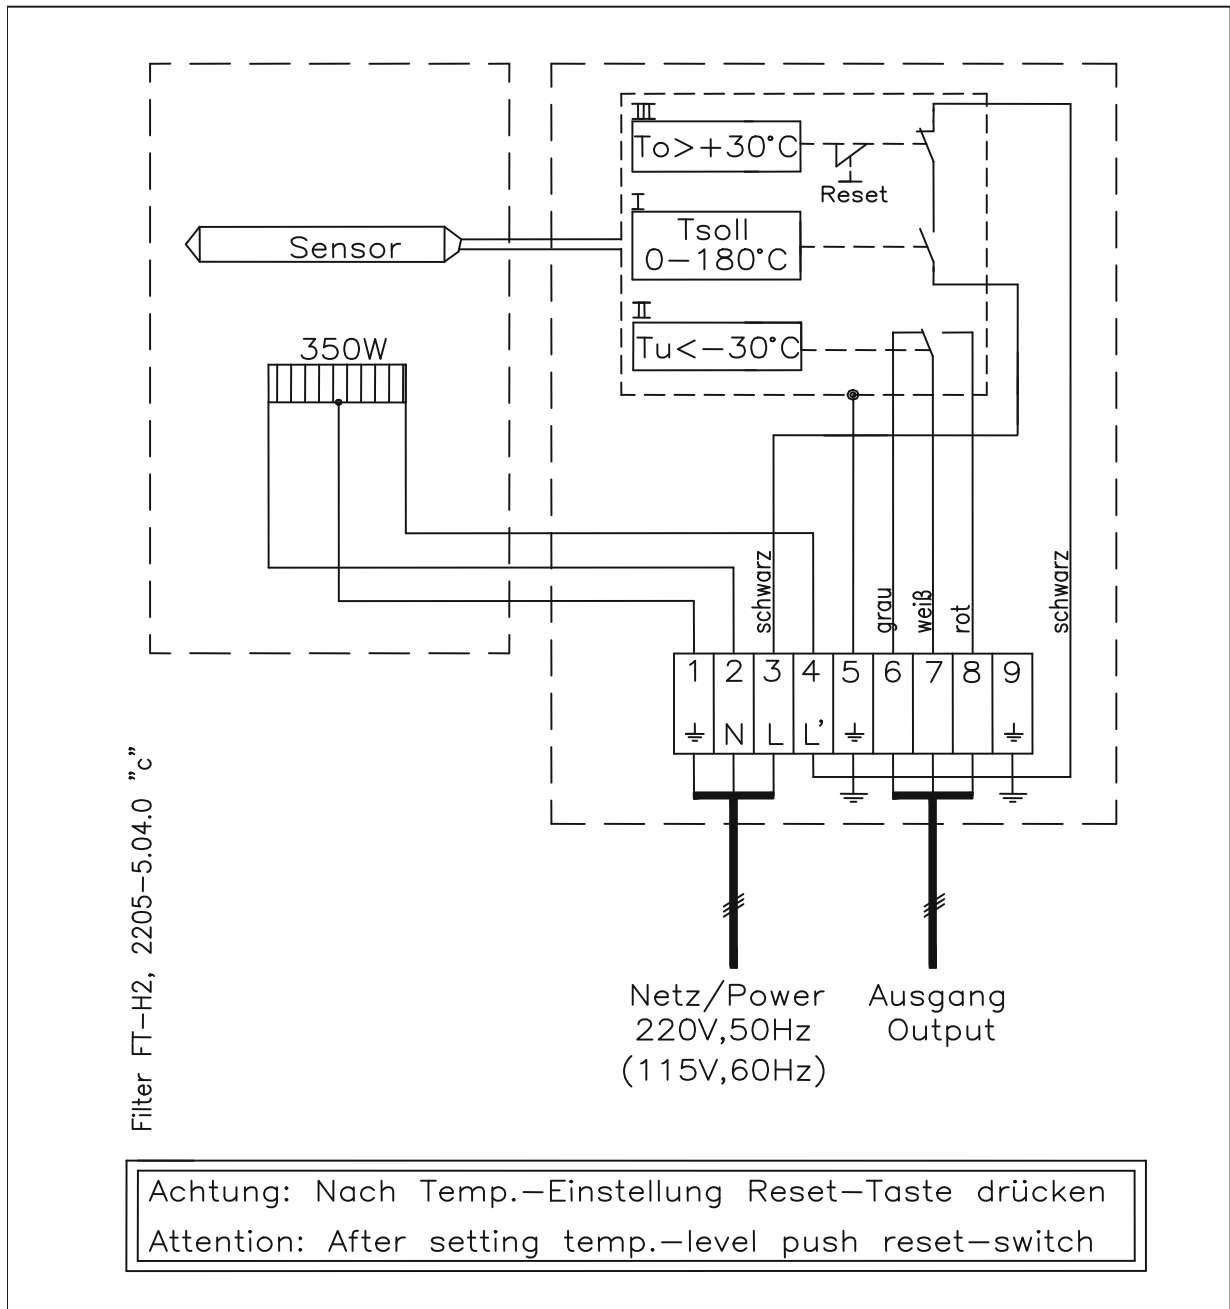

Figure 2 Electrical connecting diagram
- Insert the mains cable (min. 3 x 1.5 mm2) through the cable gland and connect to the appropriate terminals (Fig.2).